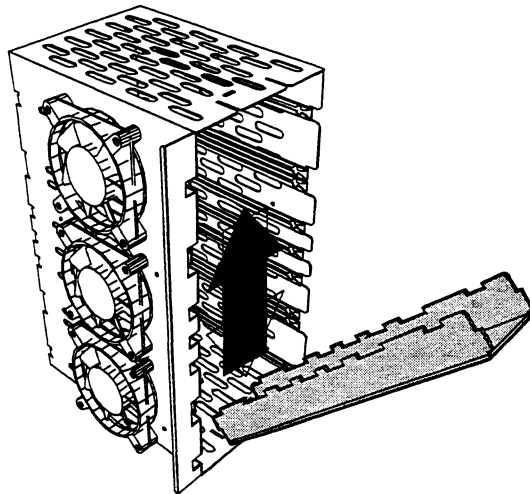

Figure 3-6 Removing the base of the lock
5. Remove the base of the lock from the hot-swap cage by pulling it up and out from the bottom of the hot-swap cage as shown in Figure 3-6.